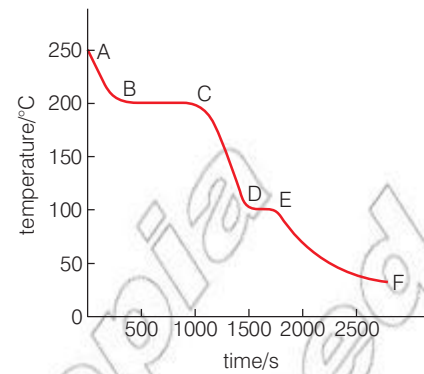

Figure 1.48
- b) Figure 1.48 shows the graph of the cooling curve of a substance between 250 °C and room temperature. Over which sections of the curve is: